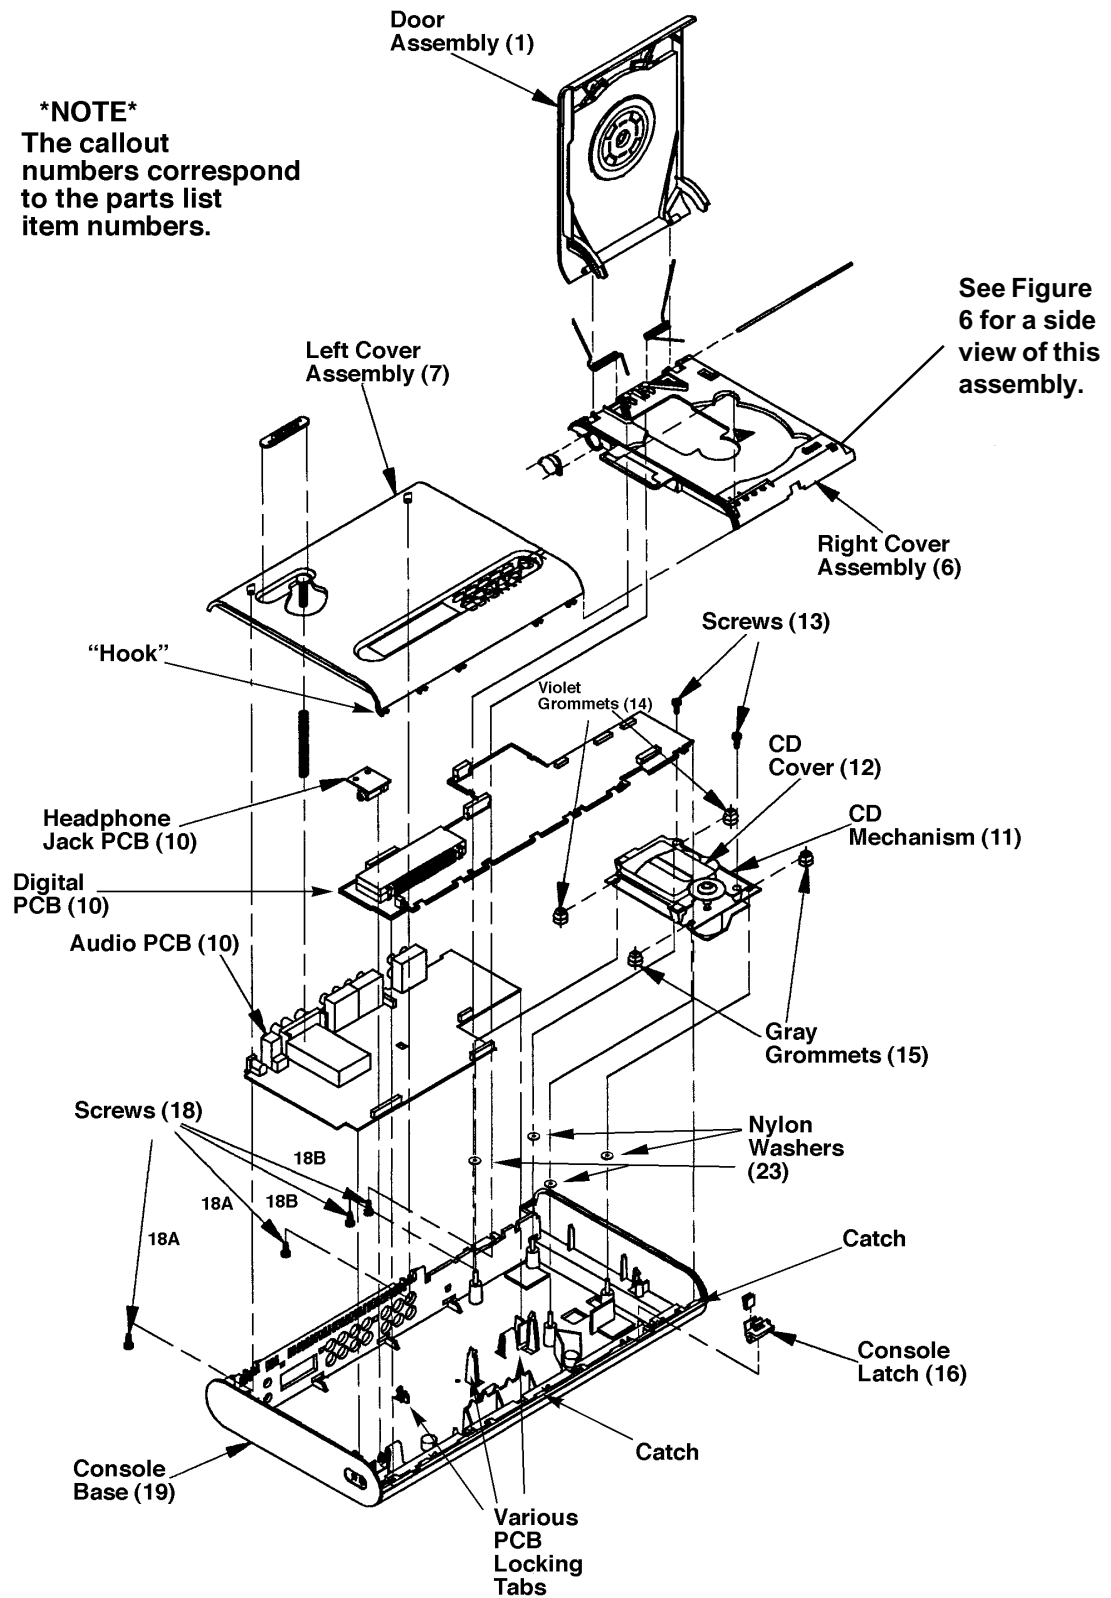

Figure 3. Labeled Exploded View
Note: Refer to Figures 3 and 5 for Procedures 1 and 2.
Note: Refer to Figures 3, 5 and 6 for Procedures 3 and 4.
Note: Refer to Figures 3, 4 and 7 for Procedures 5 and 6.
6.2 Slide the violet (14) and gray (15) grommets into their respective slots on each corner of the mechanism. See Figure 3 for their proper locations.
6.5 Place the mechanism on the four metal posts located in the base (19). Position as shown in Figure 3.
Note: Refer to Figures 3 and 7 for Procedures 7 and 8.
7.3 There are four black plastic tabs that hold the PCB (10) in position. See Figure 3. Flex them carefully outward and pull the PCB up and out.
Note: Refer to Figures 3 and 7 for Procedures 9 and 10.
Note: Refer to Figures 3 and 7 for Procedures 11 and 12.